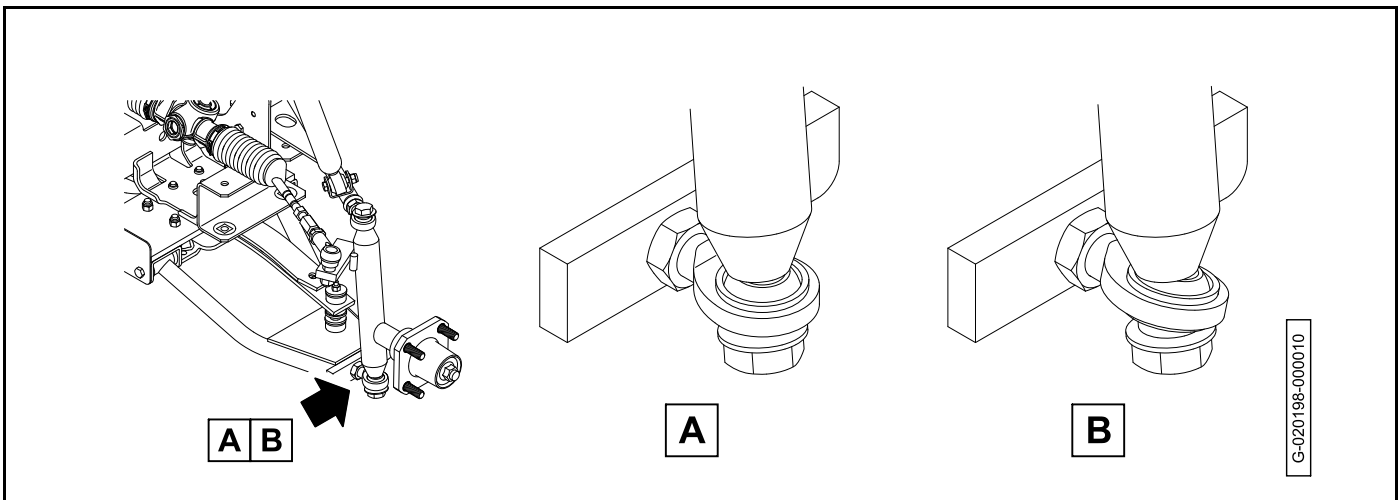

Figure 7-16
5. Adjust the bottom rod end (3) in the appropriate direction and secure with the jam nuts. Snug hardware but do not torque until alignment is complete .
6. Make sure both ends of the spindles are correctly centered on the swivel ball of the rod ends (**Figure 7-16, Page 7-14**). Detail A is correct. Detail B is incorrect.